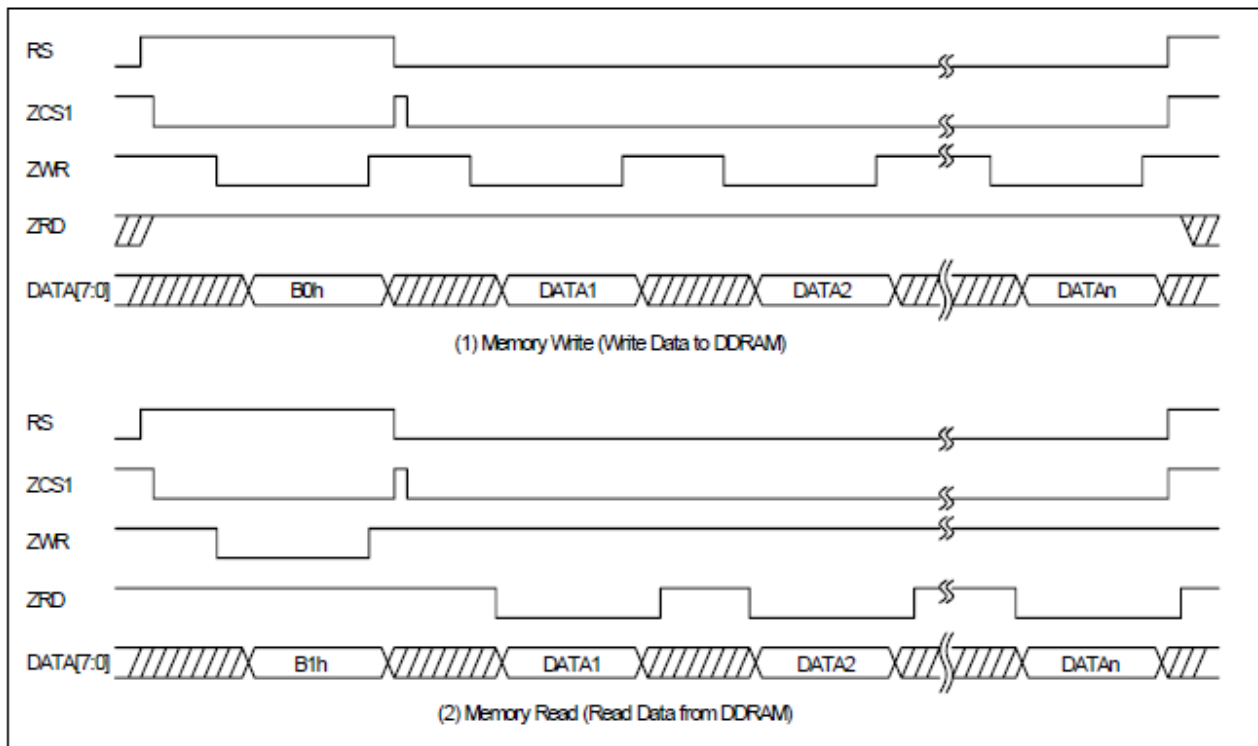

Figure 6-6 : Memory Write/Read Cycle
When users want to write data to memory – DDRAM or CGRAM, then a special Command cycle has to execute first, the register have to assign to “B0h” on Data Bus. Then the following Data Write cycle will write data into memory. If users want to read data from memory, then the register has to assign to “B1h” on Data Bus in Command Write cycle. Please see the following Figure 6-6 (1) and (2).